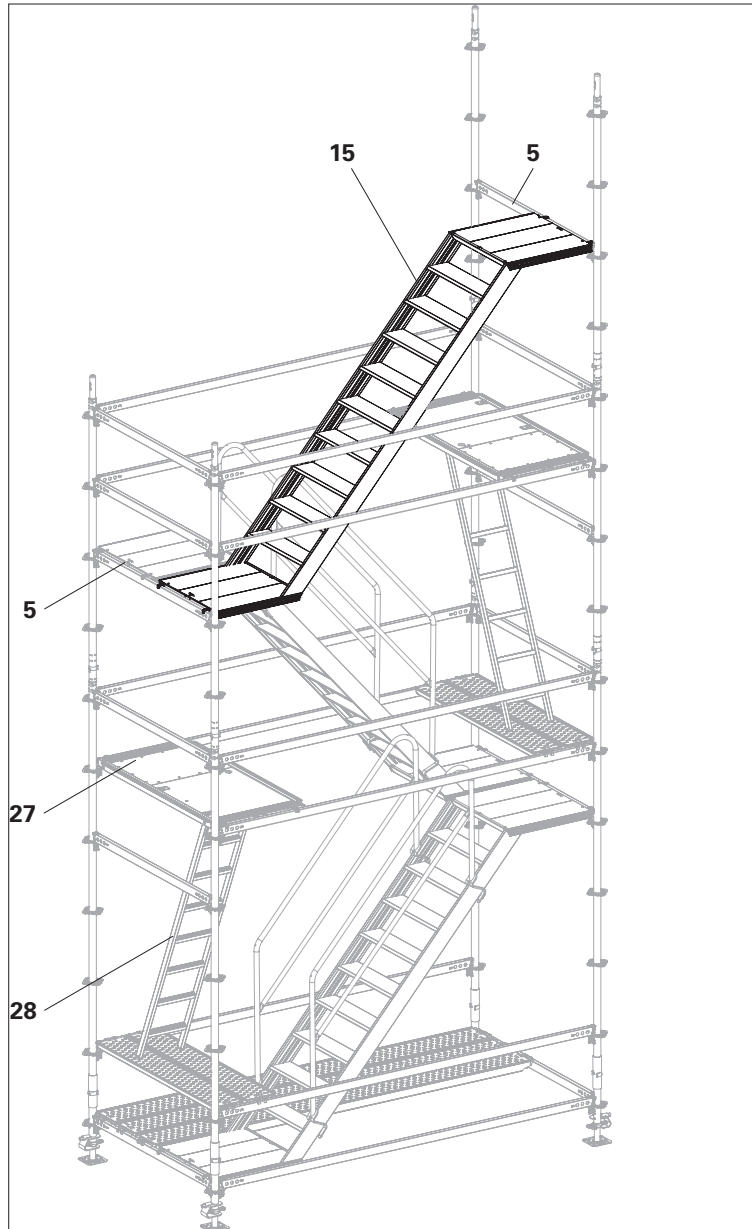

Fig. B4.05
1. Place Flex Stair UAS-2 (**15**) on top and bottom Horizontal Ledgers UH-2 (**5**). (Fig. B4.05)